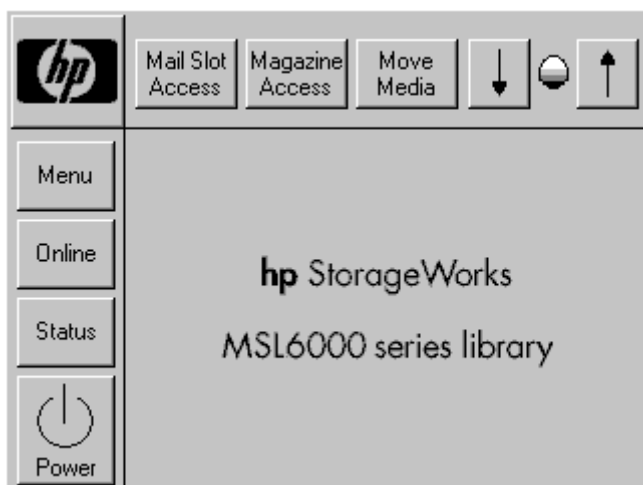

Figure 25 Library home screen (MSL6000 shown)
1. Using the Graphical User Interface (GUI) touch screen on the master library, touch the **Menu** button from the Status screen (see Figure 25). Refer to the *HP StorageWorks MSL6000 Series Tape Library User Guide* for instructions on how to operate the GUI touch screen.
1. Using the GUI touch screen on a standalone library in a rack enclosure, touch the **Menu** button from the Status screen (see Figure 25 on page 36).